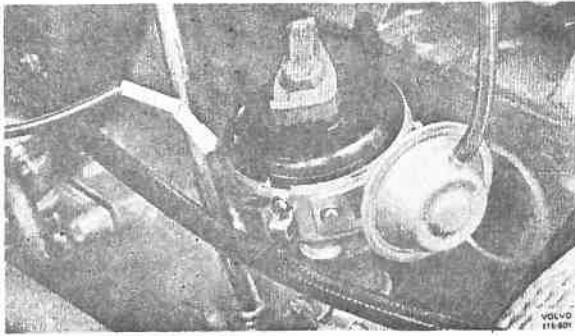

Fig. 34-8. Distributor cap removed
1. Unclasp the lock clasps on the distributor cap and lift off the cap, Fig. 34-8.